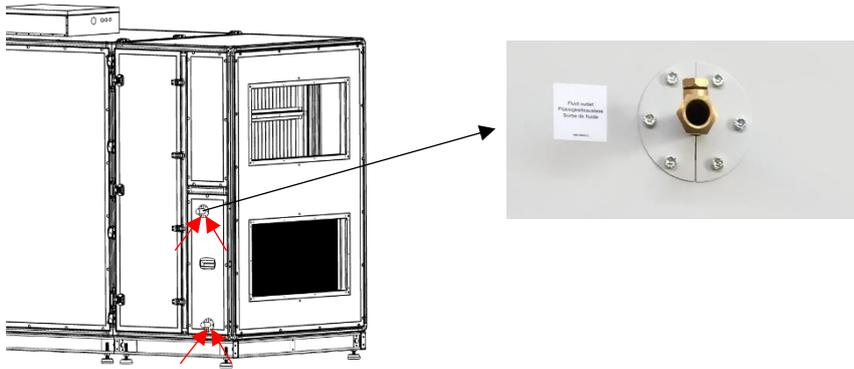

Fig. 44
4. Place sheet metal parts on the panel as shown below (sheet metal parts are included in scope of water after heater delivery) (Fig. 44)